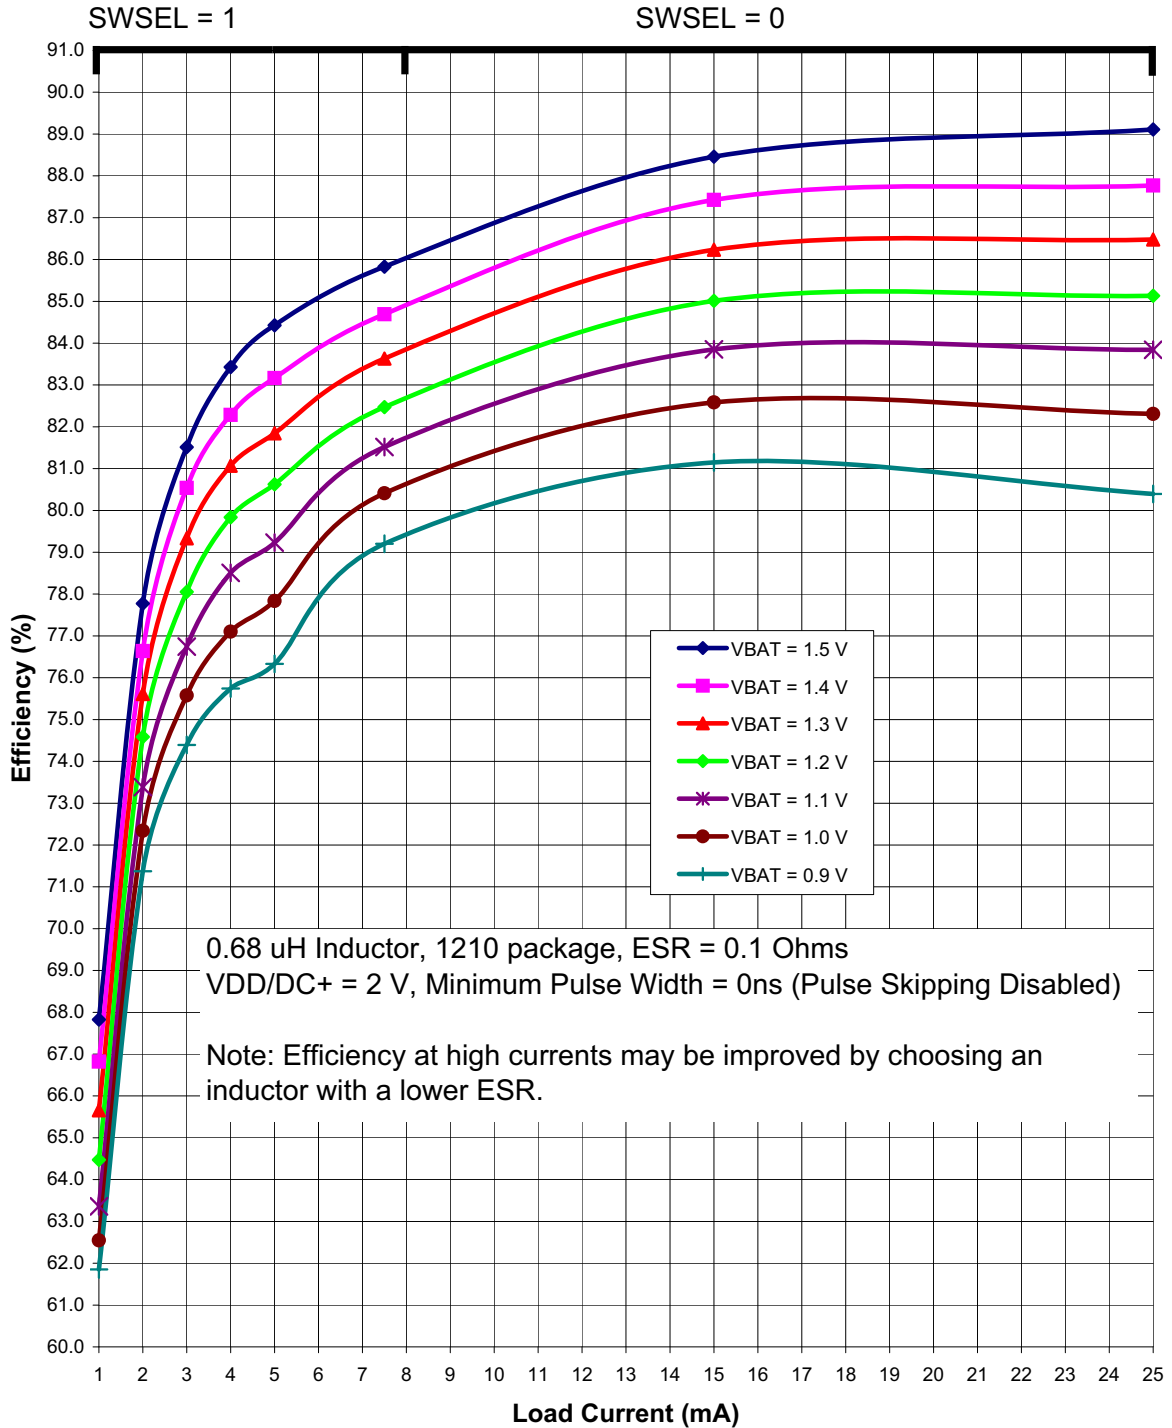
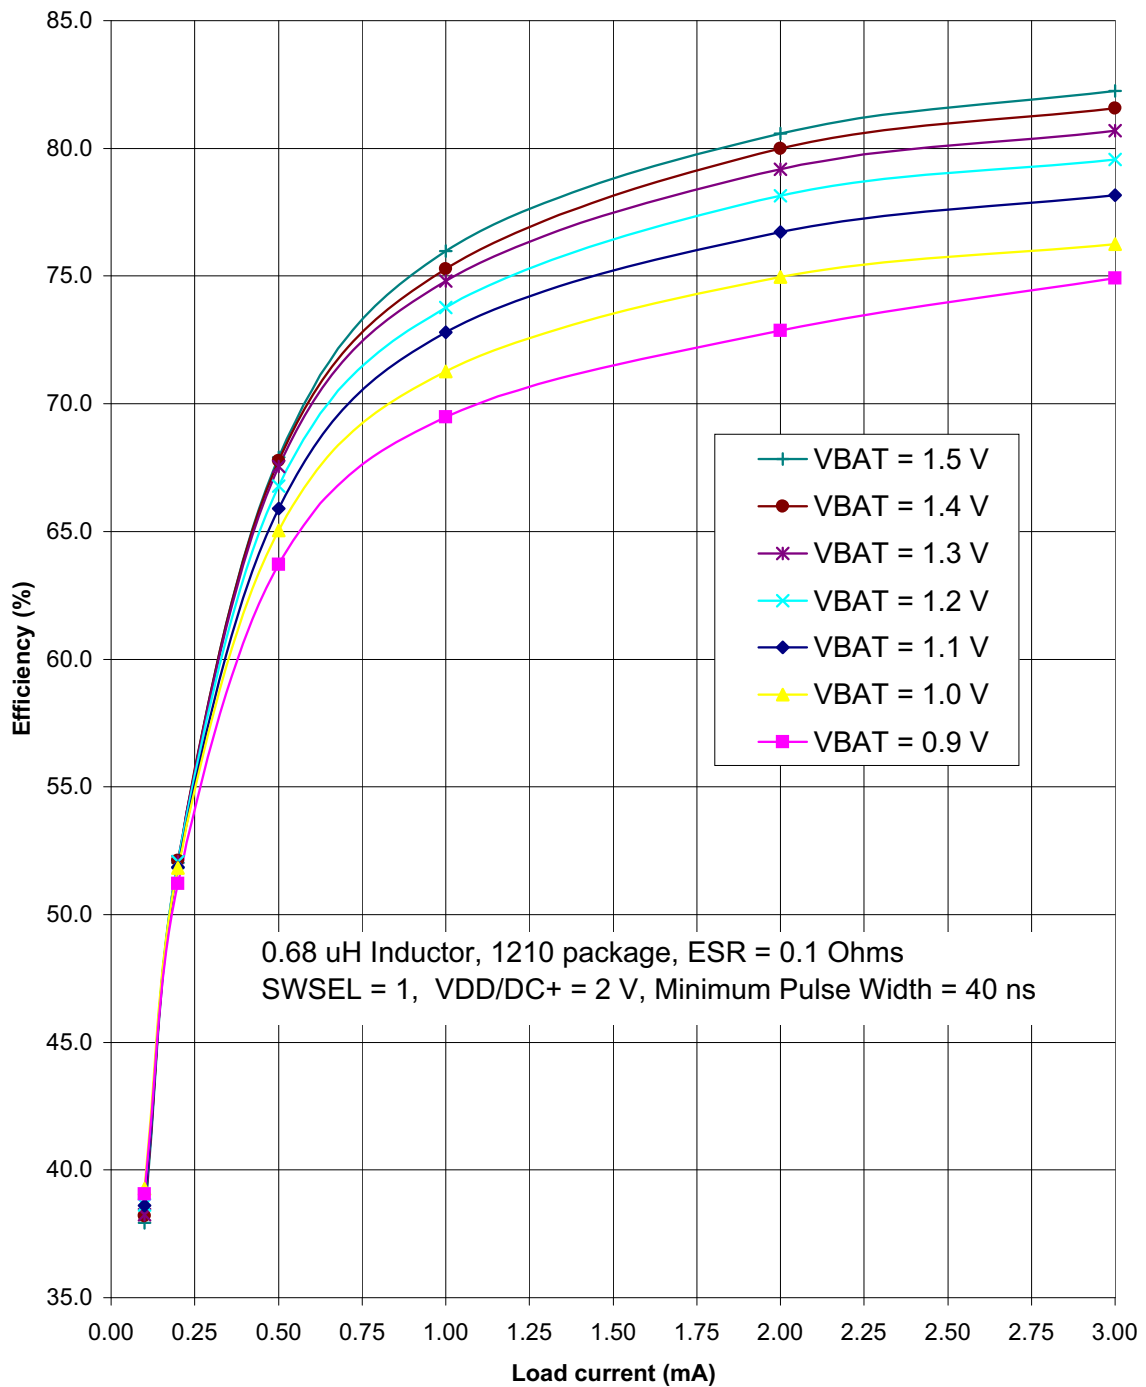

Figure 4.3. Typical DC-DC Converter Efficiency (High Current, VDD/DC+ = 2 V)
Figure 4.5. Typical DC-DC Converter Efficiency (Low Current, VDD/DC+ = 2 V)
<ol style="list-style-type: none"> <li>1. Based on device characterization data; Not production tested.</li> <li>2. SYSCLK must be at least 32 kHz to enable debugging.</li> <li>3. Digital Supply Current depends upon the particular code being executed. The values in this table are obtained with the CPU executing an "sjmp \$" loop, which is the compiled form of a while(1) loop in C. One iteration requires 3 CPU clock cycles, and the Flash memory is read on each cycle. The supply current will vary slightly based on the physical location of the sjmp instruction and the number of Flash address lines that toggle as a result. In the worst case, current can increase by up to 30% if the sjmp loop straddles a 64-byte Flash address boundary (e.g., 0x007F to 0x0080). Real-world code with larger loops and longer linear sequences will have few transitions across the 64-byte address boundaries.</li> <li>4. Includes oscillator and regulator supply current.</li> <li>5. IDD can be estimated for frequencies <math>\leq 14</math> MHz by simply multiplying the frequency of interest by the frequency sensitivity number for that range, then adding an offset of 90 <math>\mu</math>A. When using these numbers to estimate IDD for &gt;14 MHz, the estimate should be the current at 25 MHz minus the difference in current indicated by the frequency sensitivity number. For example: VDD = 3.0 V; F = 20 MHz, IDD = 4 mA – (25 MHz – 20 MHz) x 0.102 mA/MHz = 3.5 mA assuming the same oscillator setting.</li> <li>6. The supply current specifications in Table 4.2 are for two cell mode. The VBAT current in one-cell mode can be estimated using the following equation:           <math display="block">\text{VBAT Current (one-cell mode)} = \frac{\text{Supply Voltage} \times \text{Supply Current (two-cell mode)}}{\text{DC-DC Converter Efficiency} \times \text{VBAT Voltage}}</math> <p>The VBAT Voltage is the voltage at the VBAT pin, typically 0.9 to 1.8 V.            The Supply Current (two-cell mode) is the data sheet specification for supply current.            The Supply Voltage is the voltage at the VDD/DC+ pin, typically 1.8 to 3.3 V (default = 1.9 V).            The DC-DC Converter Efficiency can be estimated using Figure 4.3–Figure 4.5.</p> </li> <li>7. Idle IDD can be estimated by taking the current at 25 MHz minus the difference in current indicated by the frequency sensitivity number. For example: VDD = 3.0 V; F = 5 MHz, Idle IDD = 2.1 mA – (25 MHz – 5 MHz) x 0.079 mA/MHz = 0.52 mA.</li> <li>8. Internal LFO only available on 'F912 and 'F902 devices.</li> <li>9. Ability to disable VBAT supply monitor only available on 'F912 and 'F902 devices.</li> </ol>